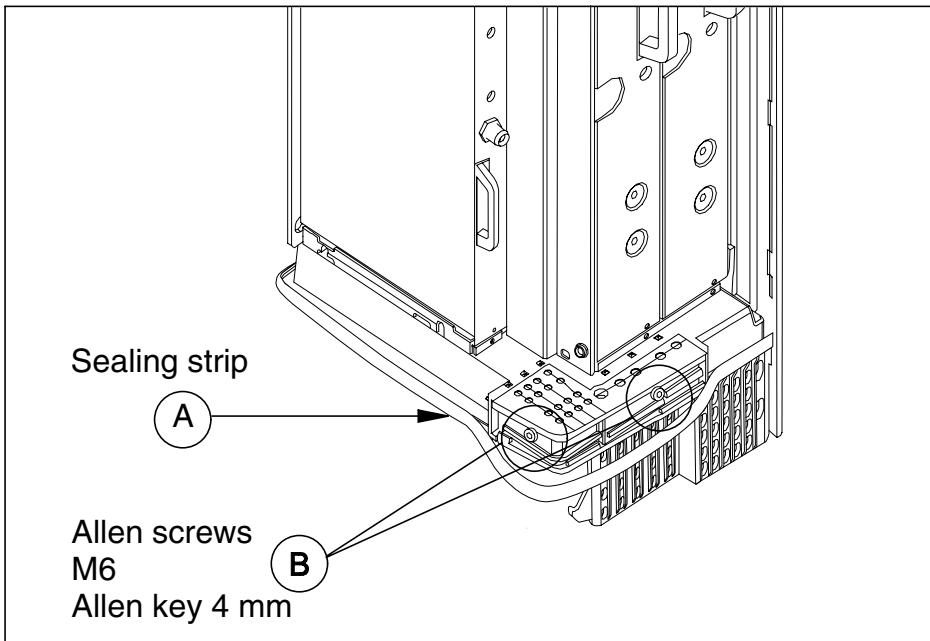

Figure 16. Displacing the sealing strip and removing the cable entry block screws
1. Displace the sealing strip around the cable entry block. See [A] in Figure 16.
2. Loosen and remove the two Allen screws that keep the cable entry block in place. Use a torque driver with a 4 mm Allen bit. For the location of the screws, see [B] in Figure 16.